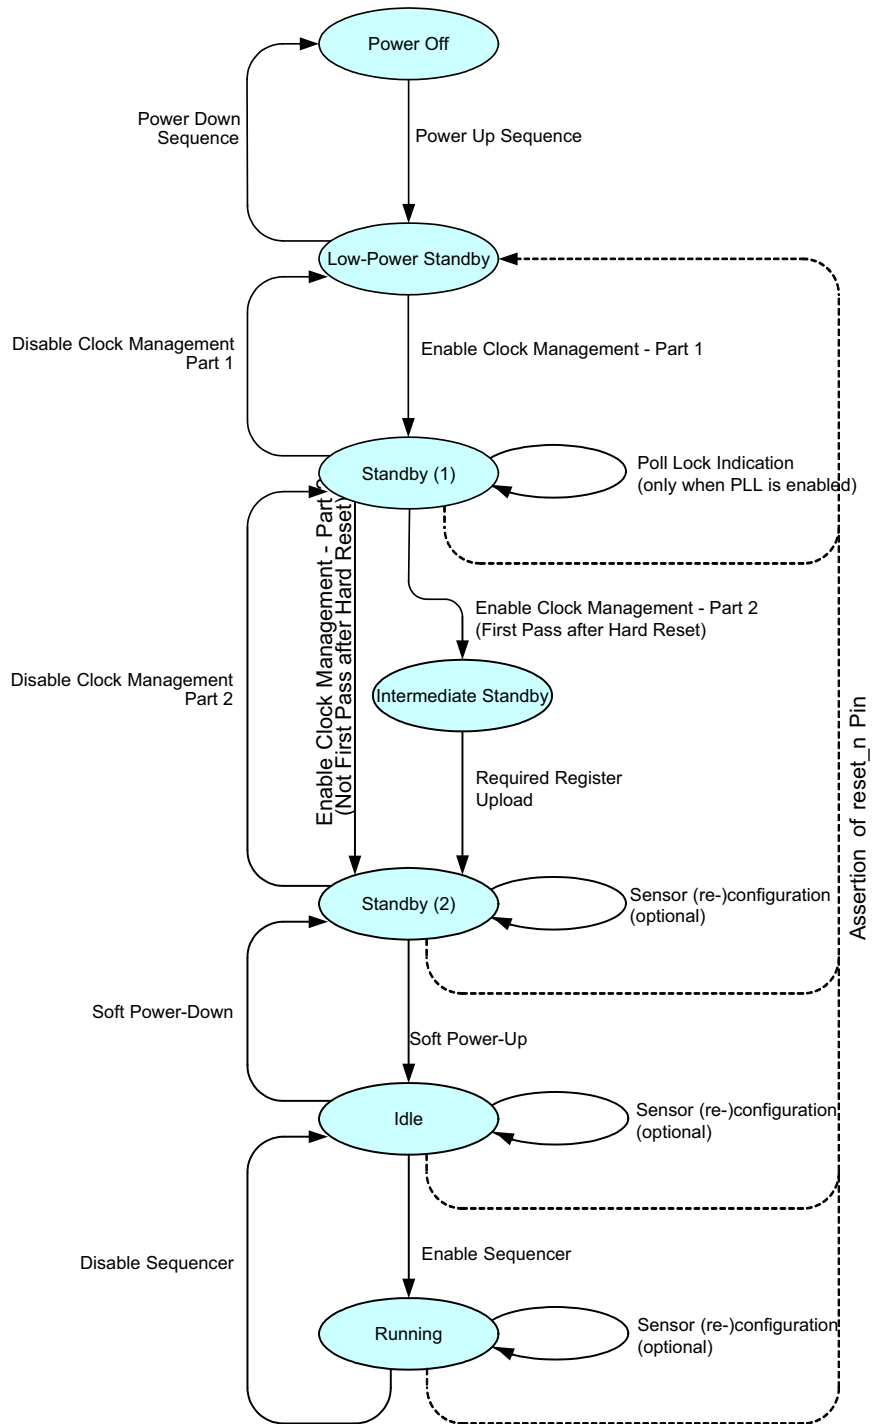

Figure 15. Sensor Operation Flowchart
Figure 15 shows the sensor operation flowchart. The sensor has six different 'states'. Every state is indicated with the oval circle. These states are Power off, Low power standby, Standby (1), Standby (2), Idle, Running.
Check the PLL\_lock flag 24[0] by reading the SPI register. When the flag is set, the ‘Enable Clock Management– Part 2’ action can be continued. When PLL is not used, this step can be bypassed as shown in Figure 15 on page 14.